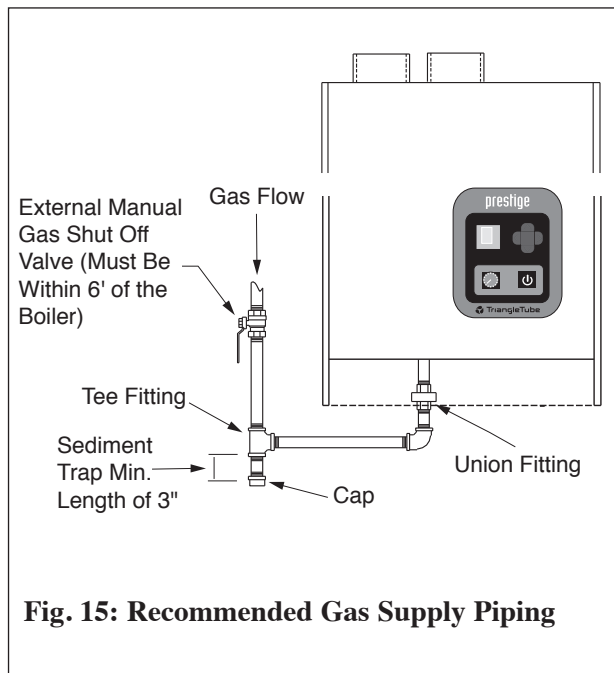

Fig. 15: Recommended Gas Supply Piping
2. Install a manual shutoff valve in the gas supply piping as shown in Fig. 15. For installations in Canada the installer must tag and identify the main shutoff valve.
3. Install a sediment trap (drip leg) on the gas supply line prior to connecting to the PRESTIGE Excellence gas train as shown in Fig. 15.